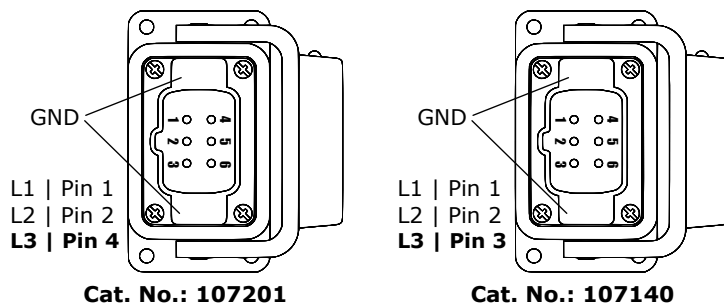

Figure 8.2: pin assignment of the input connection
*Version with alternative pin assignment of the input connection, see fig. 8.2